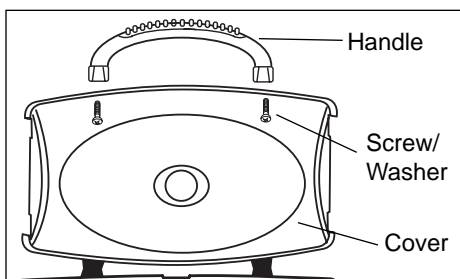

Figure 1
6. The Handle Assembly and mounting hardware are packaged separately in a plastic bag. Remove all parts, then properly position the Handle on the front of the Grill Cover with the screws in the Handle facing down. From the inside of the Grill Cover, place one of the Screws and Washers through the hole in one side of the Cover and into the Handle. Repeat with the other side of the Handle. Securely fasten both Screws with a Phillips head screw driver. See Figure 1.